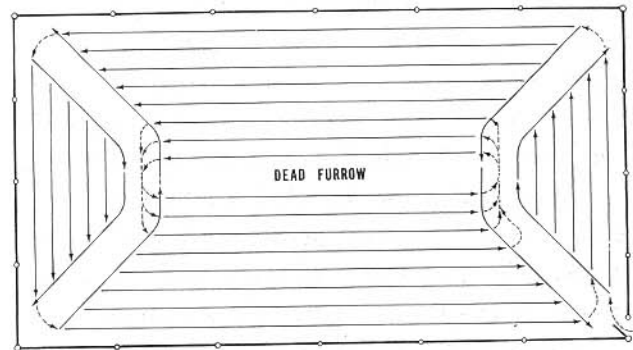

Fig. 42 Finishing at the Center
2. Another method of plowing using square corners is to plow around the field from the outside, raising the plow at the corners. See Fig. 42. When the distance across the end of the field becomes too short, discontinue plow-